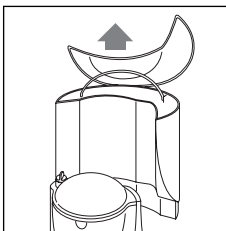

fig. 3
- Lift the water tank lid and remove the water tank (Fig. 3).